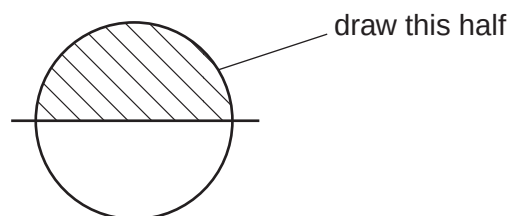

Fig. 2.1
- (ii) Draw a large plan diagram of the part of the specimen on **M1** indicated by the shaded sector in Fig. 2.1.